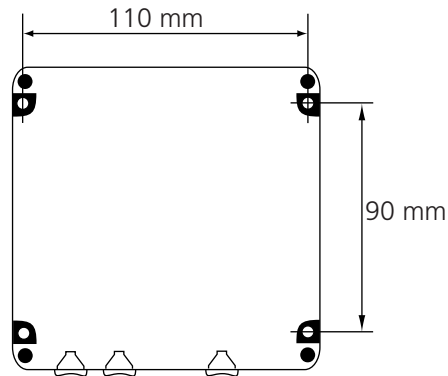

Figure 12. Mounting dimensions for L951TP in mm.
- 2 Fasten the back plate of the case on the desired surface with four screws, see figure 12 for mounting dimensions. Mount the case with the cable entries downwards.